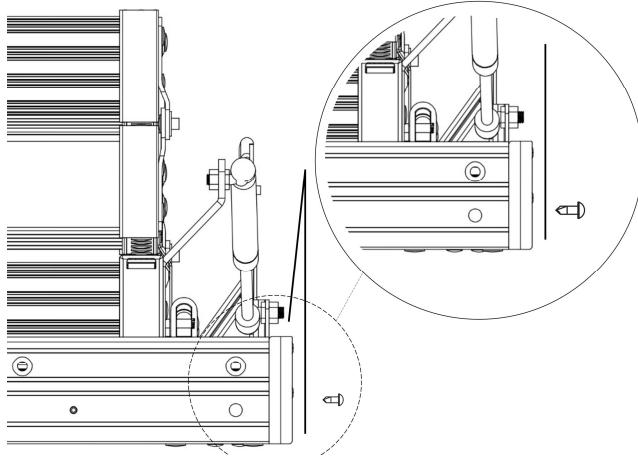
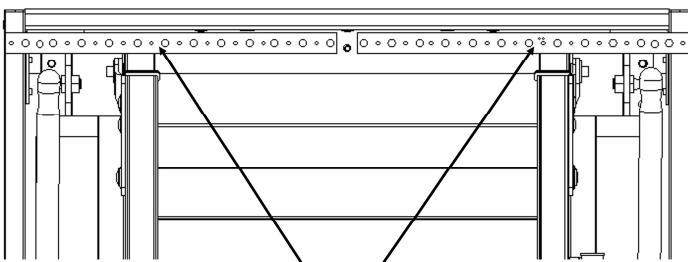
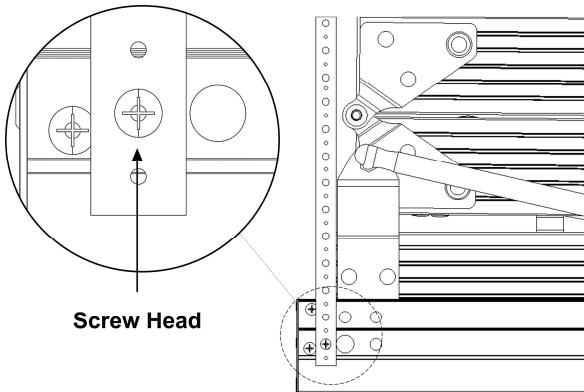

FIGURE 4 : STRAP INSTALLATION
FIGURE 6: STRAP POSITION
FIGURE 5: STRAP POSITION
C. Carefully unfold the 14" metal straps, these could have sharp edges. Place a #10 3/8" Philips screw through the **bottom** $\frac{1}{4}$ " diameter (large) strap hole. Position a metal strap against the side of aluminum frame over the predrilled hole as shown in **Figure 4** and **Figure 5**. DO NOT let the metal straps extend below the aluminum frame. See **Figure 7**. Hold the metal strap securely to prevent rotation of the strap while screwing it to the aluminum frame.
E. Position both straps vertically as shown in **Figure 5**. Fold both straps inward over the climbing section and out of the way. See **Figure 6**.